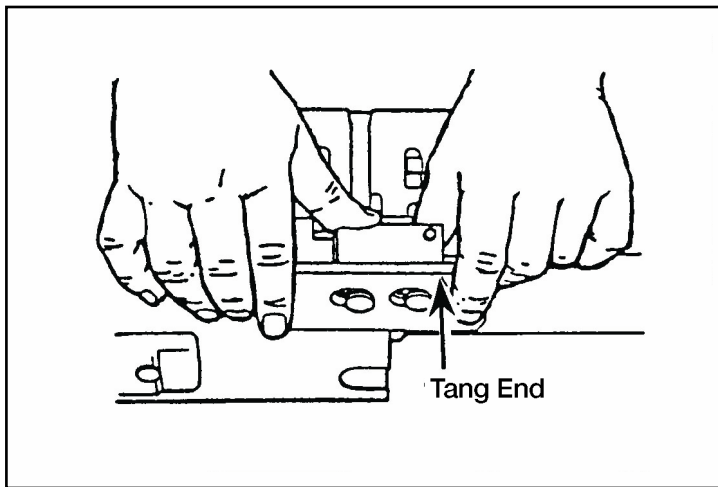

Figure 071-030-0001-17. Attachment of the round positioning block
- (1) Turn the receiver upright.
- (2) Rotate the charger handles to the straight-up position.
- (3) Line up the lugs on the charger with the slots in the receiver rail. Insert the charger lugs into the slots.
- (4) Hold the charger tightly against the rail. Slide the charger forward until it locks into place.
- b. Attach the round positioning block (figure 071-030-0001-17).